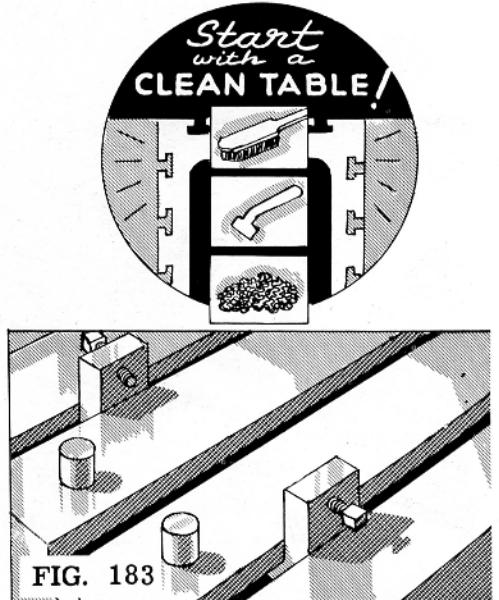

FIG. 183
4. Put two round stops in the reamed holes at the front of the table (Fig. 183). This will prevent shifting caused by the cutting action of the tool.
5. Place two stops in each of the selected table slots (Fig. 183). The number of stops will depend upon the length of the piece. At least two sets should be used unless the piece is so short that there is room for only one set.